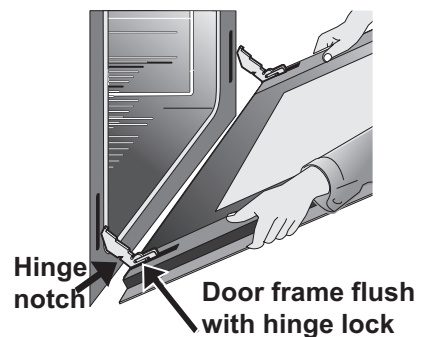

Figure 41: Replacement and location of hinge arm and roller pin
4. Pull the bottom of the door toward you while rotating the top of the door toward the appliance to completely disengage the hinge levers (Figure 41).
1. Firmly grasp both sides of oven door along the door sides. Do not use the oven door handle (Figure 41).
2. Hold the oven door at the same angle as the removal position. Carefully insert the hinge levers into the oven frame until you feel the hinge levers are seated into the hinge notches. The hinge arms must be fully seated into the hinge notches before the oven door can be fully opened. (Figure 41).
4. Push the door hinge locks up toward and into the oven frame on both left and right oven door hinges to the locked position (Figure 41).